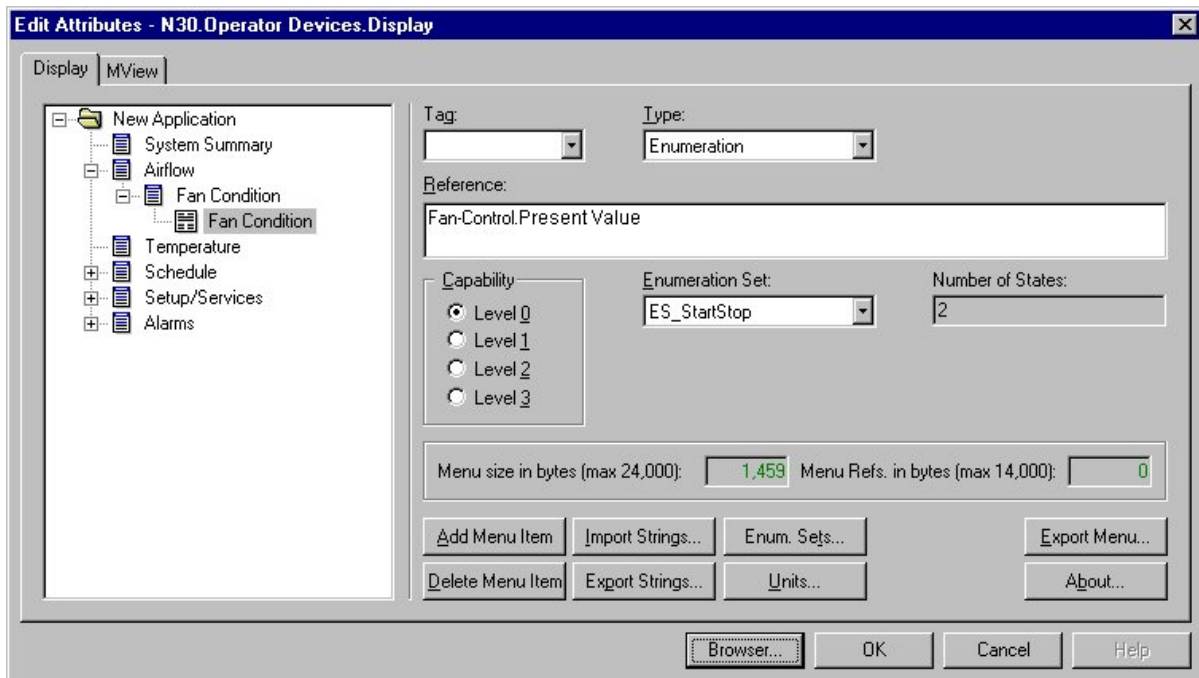

Figure 7-12: Menu Item Example
- In the example in Figure 7-12, we have selected Enumeration for the type and left the tag blank.